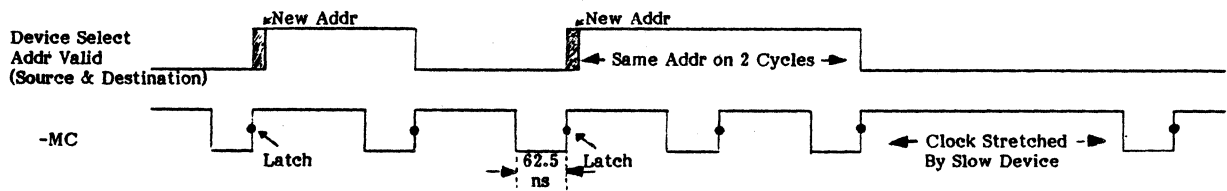

Figure 4-28. Latch Timing
4.12.2.1 Microprocessor Interface. There are eight ICs and one 256 x 4 PROM used to provide control, timing and overflow detection. Normally, three clock cycles are required for microprocessor operation. The interface circuitry is capable, however, of stretching the clock from three to four intervening cycles for both source and destination data. The address and data are latched on the rising edge of the master clock signal, -MC. The clock cycle is separated by a 62.5 ns interval. The 16-bit data carried on the microprocessor data bus must be valid within 60 ns of the master clock's rising edge. Refer to Figure 4-28.